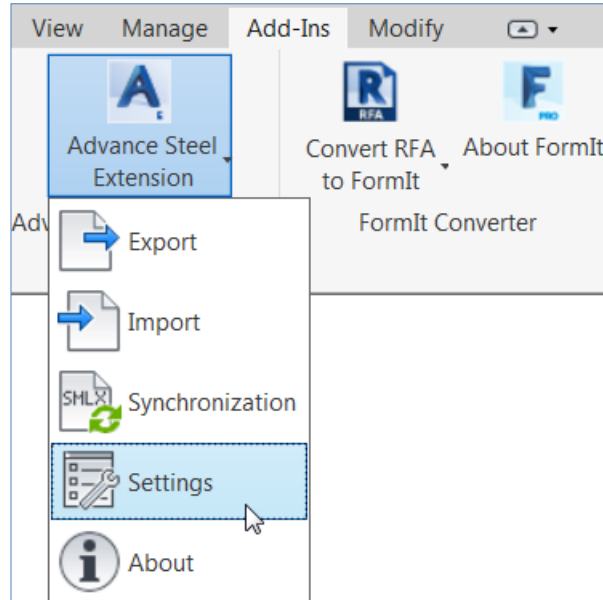

FIGURE 5: THE **ADVANCE STEEL EXTENSION** ADD-IN
4. After the add-in is installed, it will be listed in the **Add-Ins** tab, as shown in Figure 5.